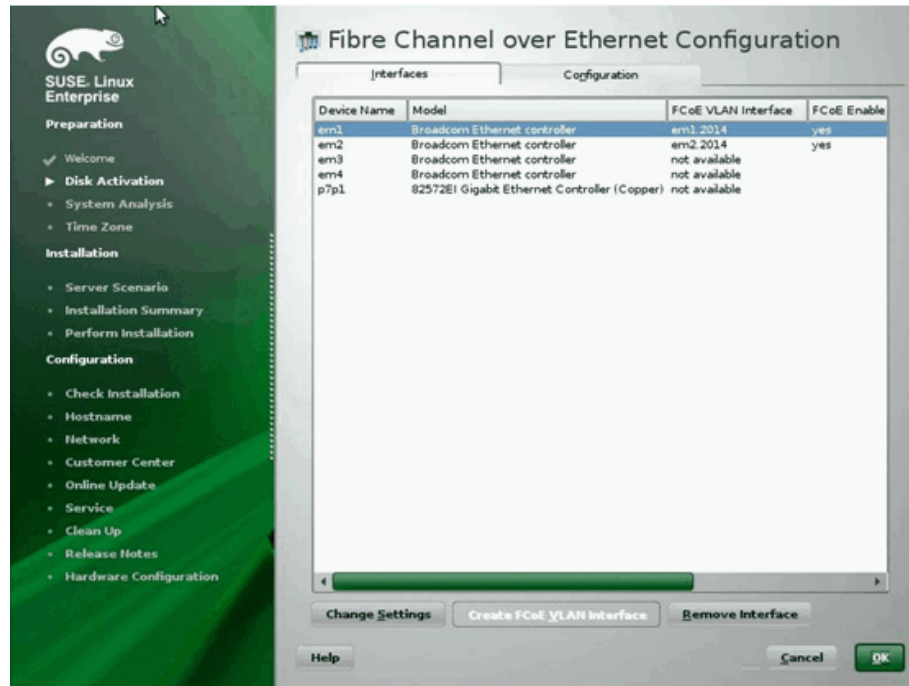

Figure 13-17. FCoE Interface Configuration
8. After completing the configuration of all interfaces, click **OK** to proceed (Figure 13-17).